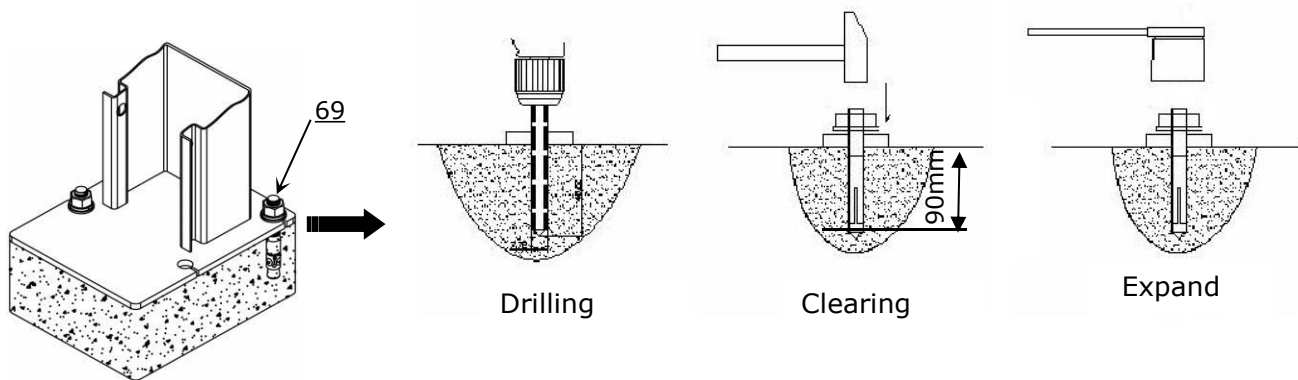

Fig. 38
2. Using the prescribed rotary hammer drill, and drill all the anchor holes and install the anchor bolts. Do not tighten the anchor bolts (See Fig. 38).